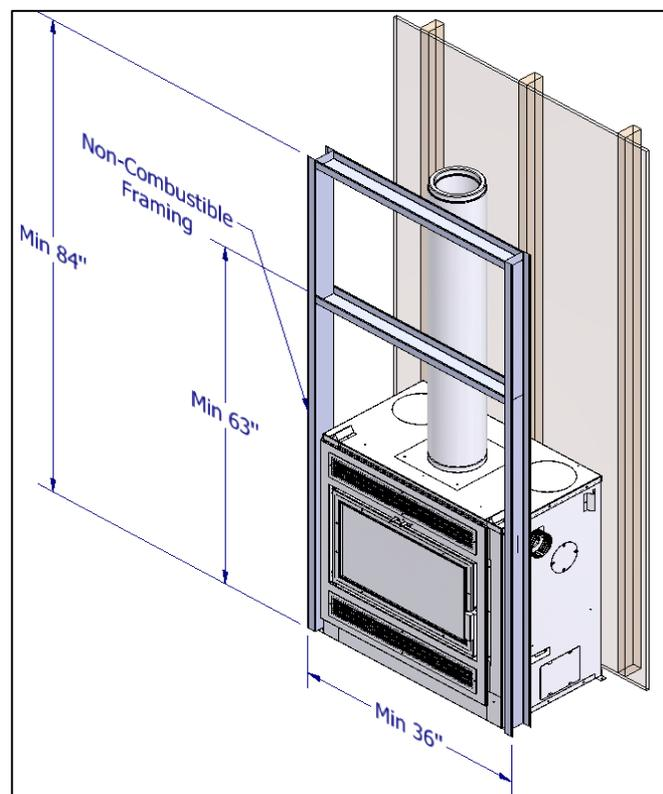

Figure 3-23: Minimum Elegance 36 Framing Dimensions
The Elegance 36 can be placed directly onto or against normal, combustible construction materials such as lumber, plywood, millboard, particleboard, drywall and decorative wood paneling. The fireplace should NOT be placed directly against or be in contact with an insulation material. A portion of the framing on the face of the chase must be constructed with nominal 2" x 3" or 2" X 4" metal studs and the remainder can be constructed with nominal 2" X 3" or 2" X 4" lumber. Refer to Figure 3-23 for framing design. The framing must be nailed or screwed onto the floor and to the ceiling.
**CAUTION:** Respect the framing design outlined in Figure 3-23 as well as the chimney manufacturer's clearances to combustibles.